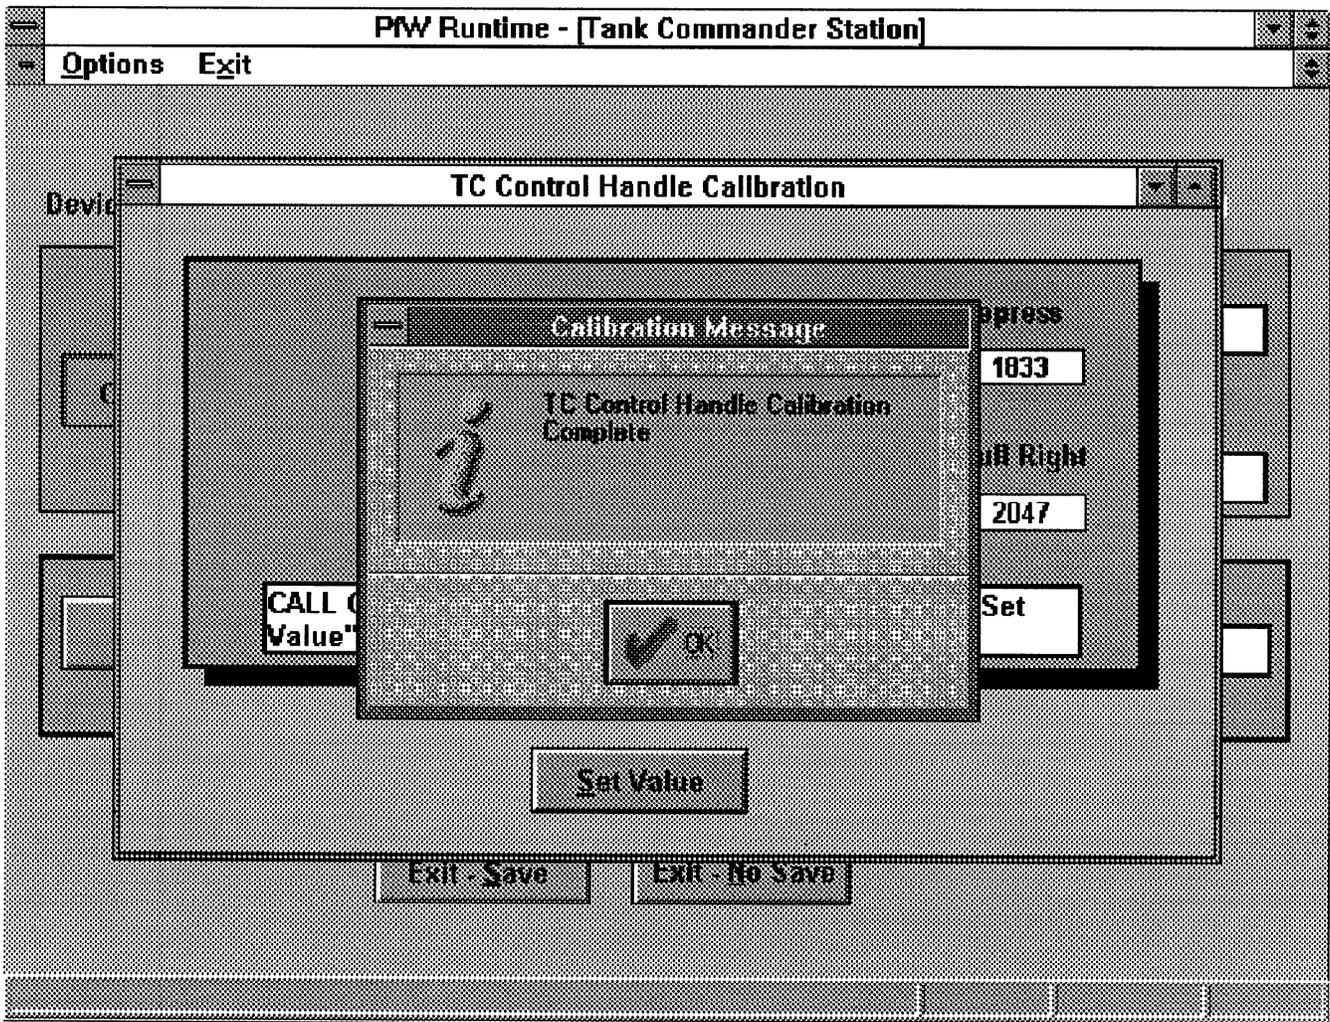

Figure 2-99. TC Control Handle Calibration Message Screen
- e. When all settings are calibrated and set with the Set Value button, the calibration message screen for that control, displays. Figure 2-99 shows a typical calibration message screen.
- (1) If all controls have not been calibrated, the calibration screen for the next control in the sequence displays.
- g. When all settings are calibrated and set with the Set Value button, the calibration message screen for that control, displays. Figure 2-99 shows a typical calibration message screen.